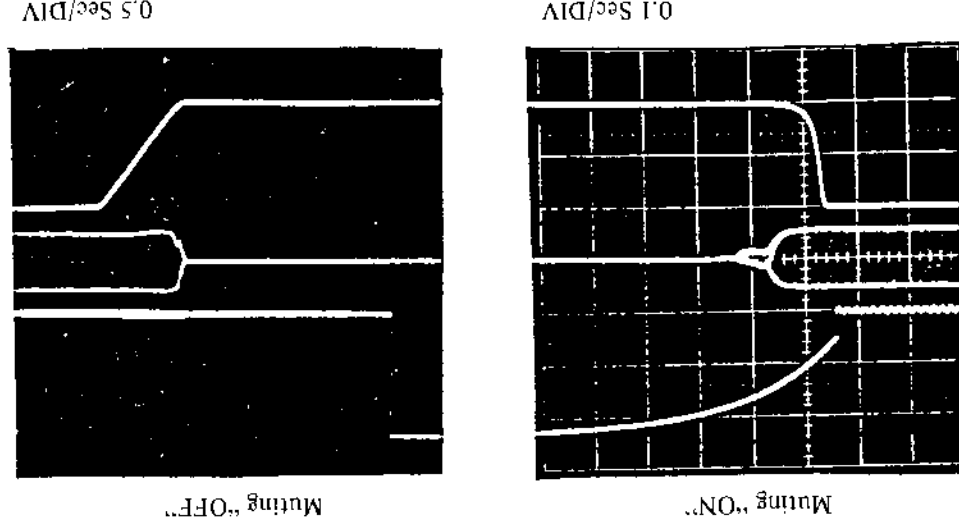

Fig. 63
The signal in the exciter circuit transfers to the base of Q413, grounding the base of Q411 by turning Q413 to ON and then turning Q410 to OFF. It also mutes the exciter, when microphone is used, by turning Q413 to ON. Fig. 63 shows the timing chart for mute signal (upper curve), exciter voltage (center curve) and sound output (lower curve). The points of measurement are (4) of P207 for mute signal, emitter of Q401 for exciter voltage and SP. OUT for sound output.
When muting circuit is turned to ON (left-hand-side in Fig. 63), the voltage of mute signal rises up, muting the exciter first and then (shortly later) the sound output. This delay of approximately 0.1 second is due to C441 and C442 for the countermeasure against unfavorable sound.
When muting circuit is turned to OFF (i.e. when muting is released) as shown on the right-hand-side of Fig. 63, the sound and exciter rise up approximately 2 seconds after the voltage of mute signal drops to "L." This delay is for eliminating the sound irregularity at the time of rise of flywheel.